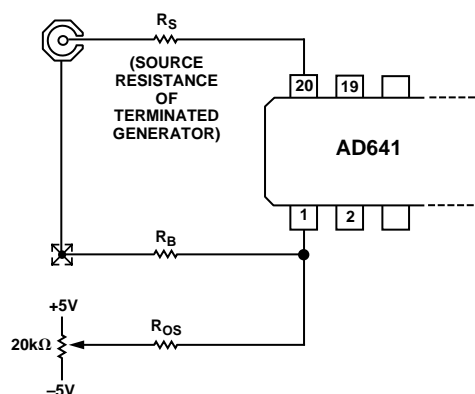

Figure 25. Optional Input Offset Voltage Nulling Circuit; See Text for Component Values
In most applications there will be no need to use any offset adjustment. However, a general offset trimming circuit is shown in Figure 25. R_S is the source resistance of the signal. *Note: 50 Ω rf sources may include a blocking capacitor and have no dc path to ground, or may be transformer coupled and have a near zero resistance to ground.* Determine whether the source resistance is zero, 25 Ω or 50 Ω (with the generator terminated in 50 Ω) to find the correct value of bias compensating resistor, R_B , which should optimally be equal to R_S , unless $R_S = 0$, in which case use $R_B = 5$ Ω . The value of R_{OS} should be set to 20,000 R_B to provide a ± 250 μV trim range. To null the offset, set the source voltage to zero and use a DVM to observe the logarithmic output voltage. Recall that the LOG OUT current of the AD641 exhibits an *absolute value response* to the input voltage, so the offset potentiometer is adjusted to the point where the logarithmic output "turns around" (reaches a local maximum or minimum).
R4 is identical to R2, and in shunt with R3 (270Ω thin film) forms a 27Ω resistor with the same TC as the output resistance of the attenuator. By connecting Pin 1 to ATN LOW (Pin 2) this resistance minimizes the offset caused by bias currents. The offset nulling scheme shown in Figure 25 may still be used, with the external resistor R_B omitted and $R_{OS} = 500 \text{ k}\Omega$. Offset stability is improved because the compensating voltage introduced at Pin 20 is now PTAT. Drifts of under $1 \mu\text{V}/^\circ\text{C}$ (referred to Pins 1 and 20) can be maintained using the attenuator.
Cascaded AD641s can be used in dc applications, but input offset voltage will limit the dynamic range. The dc intercept is 6 μ V. *The offset should not be confused with the intercept*, which is found by *extrapolating* the transfer function from its central “log linear” region. This can be understood by referring to Equation (1) and noting that an input offset is simply additive to the value of V_{IN} in the numerator of the logarithmic argument; it does not affect the denominator (or intercept) V_X . In dc coupled applications of wide dynamic range, special precautions must be taken to null the input offset and minimize drift due to input bias offset. It is recommended that the input attenuator be used, providing a practical input range of -74 dBV (± 200 μ V dc) to $+6$ dBV (± 2 V dc) when nulled using the adjustment circuit shown in Figure 25.